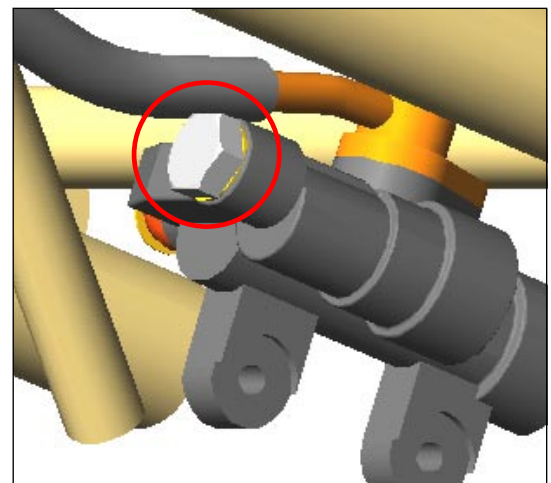

Figure 49
- b. Pressure bleed rear brake master cylinder at previously install 10mm plug bolt (use bolt as bleeder). Figure 49